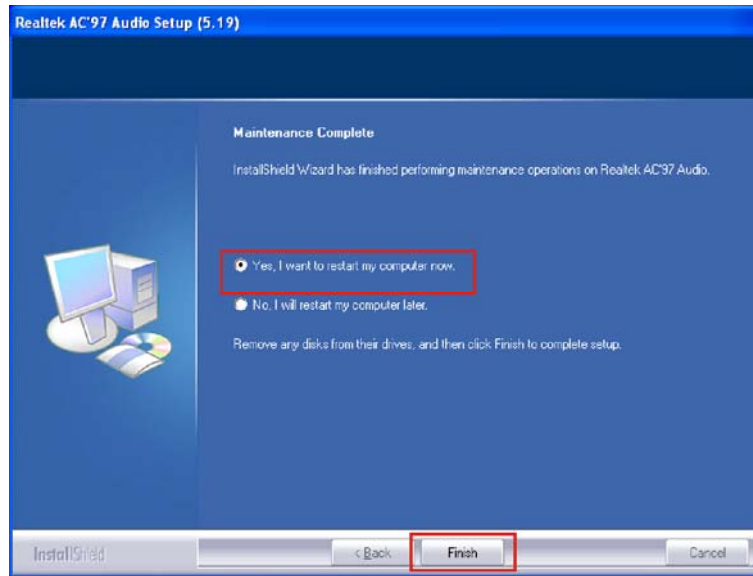

Figure 7-23: AC'97 Driver Installation Complete
Step 9: When the driver is installed, the driver installation finish screen in **Figure 7-23** appears.